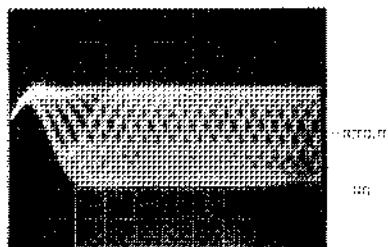

Fig. 12
- Adjust the tangential adjustment screw so that the RF wave-form will have a level maximized and an eye pattern clearly viewed. Turn the adjustment screw both clockwise and counterclockwise to points where the eye pattern deteriorates, and take the midway point as the adjustment point. As a general guide, look for an overall clear waveform, and one of the diamond shapes in the eye pattern. The diamond shapes should appear in fine lines at the point of optimum adjustment. Take care not to knock the pick-up with the screwdriver at this stage. (This kind of accident can result in loss of focus.) (See Fig.12,13)